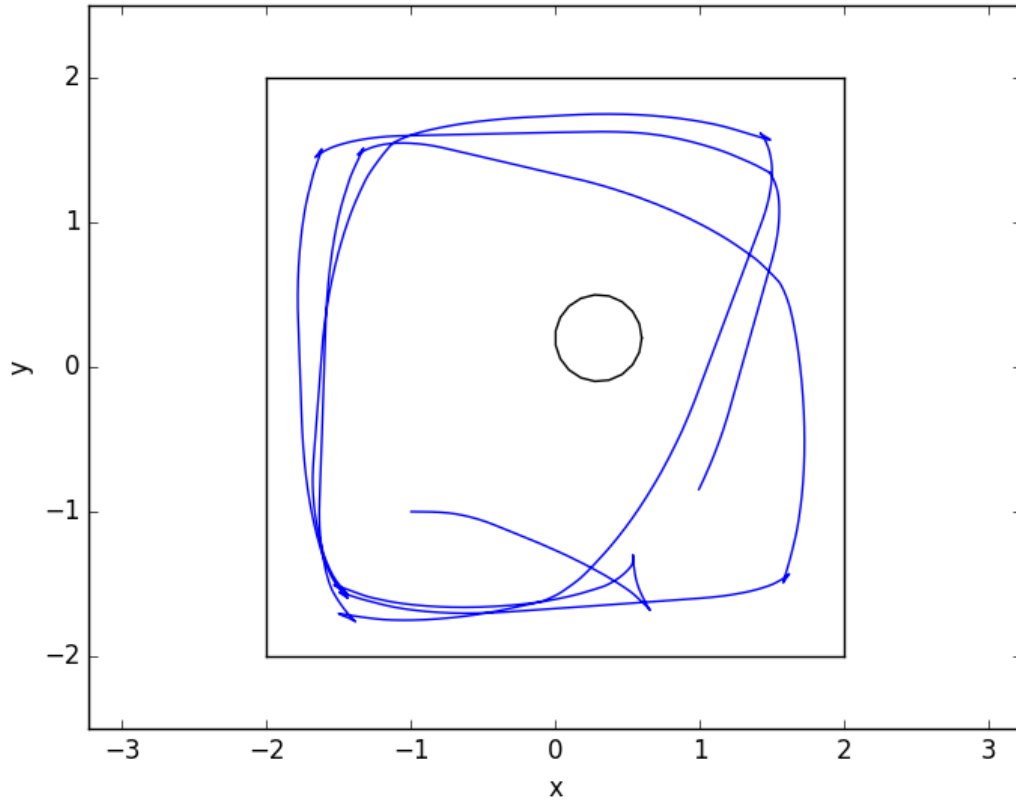

Figure 5: Rule-based controller
- (b) The plot of the trajectory of the rule based controller is shown by figure 5. The basic idea is to slow down and eventually stop and reverse if the robot is about to hit an obstacle, rotating until there is a clear path. Otherwise, the robot will just go forward. There are 3 branches for different values of the front sensor. Less than 1, the speed increases linearly from -2m/s up to 1m/s, with it rotating until it can escape this branch (by finding a direction with no obstacles directly in front). Between 1 and 2, speed increases linearly again and the robot rotates, but slower. Similarly, there are two branches for the front_left and front_right sensors for the case that there is an off centre obstacle that the front sensor doesn't detect. Similar to the braitenburg, the robot will attempt to rotate away from the obstacle depending on which sensor it is. If the robot is not close to an obstacle, it will just move forward with no rotation.